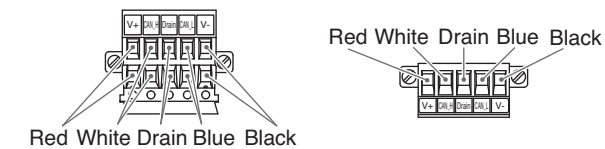

Figure 1
- (1) Connect the signal wires to the assigned pins. (Figure 1)